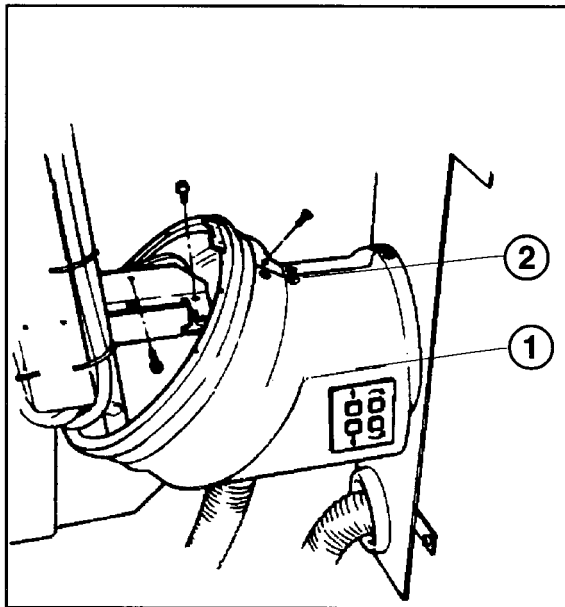

Fig. 5
- To adjust or exchange the rotation potentiometer R803, loosen the six screws (2/Fig. 5), unplug X808 and remove the right part of the support-arm cover (1/Fig. 5)